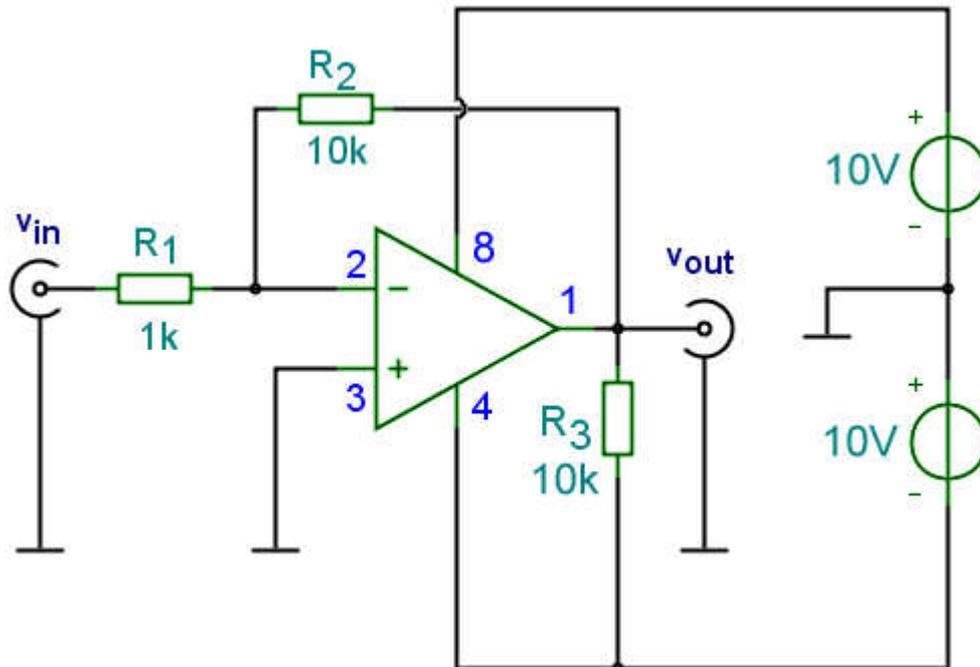

Figure 5.1 Inverting amplifier circuit
5.1.1 Build the circuit seen on figure 5.1! Take care of the correct polarity of the double power supply!